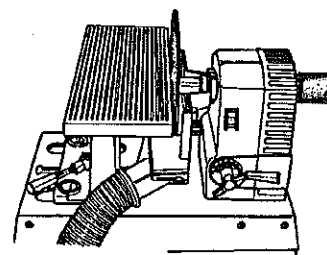

Fig.H-14
3. Install the Disc Sander, as described in the Disc Sander section (the dust chute is optional). See Fig.H-14. Use Speed Settings 2- 4.